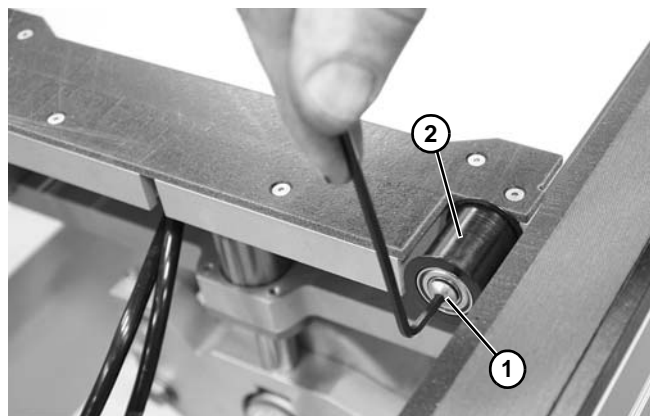

Figure 119
2. Remove button head screw (**Figure 119, item 1**) and roller (**Figure 119, item 2**) with hex wrench.